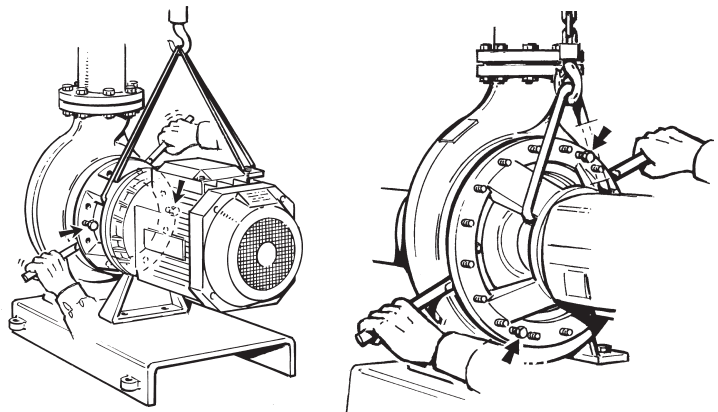

Fig. 2a Close-coupled and 2b Bearing Assembly
2. Remove the nuts securing the lantern to the pump casing. Withdraw the rotor unit from the casing, using jacking screws or levers to free it, see Fig. 2a.